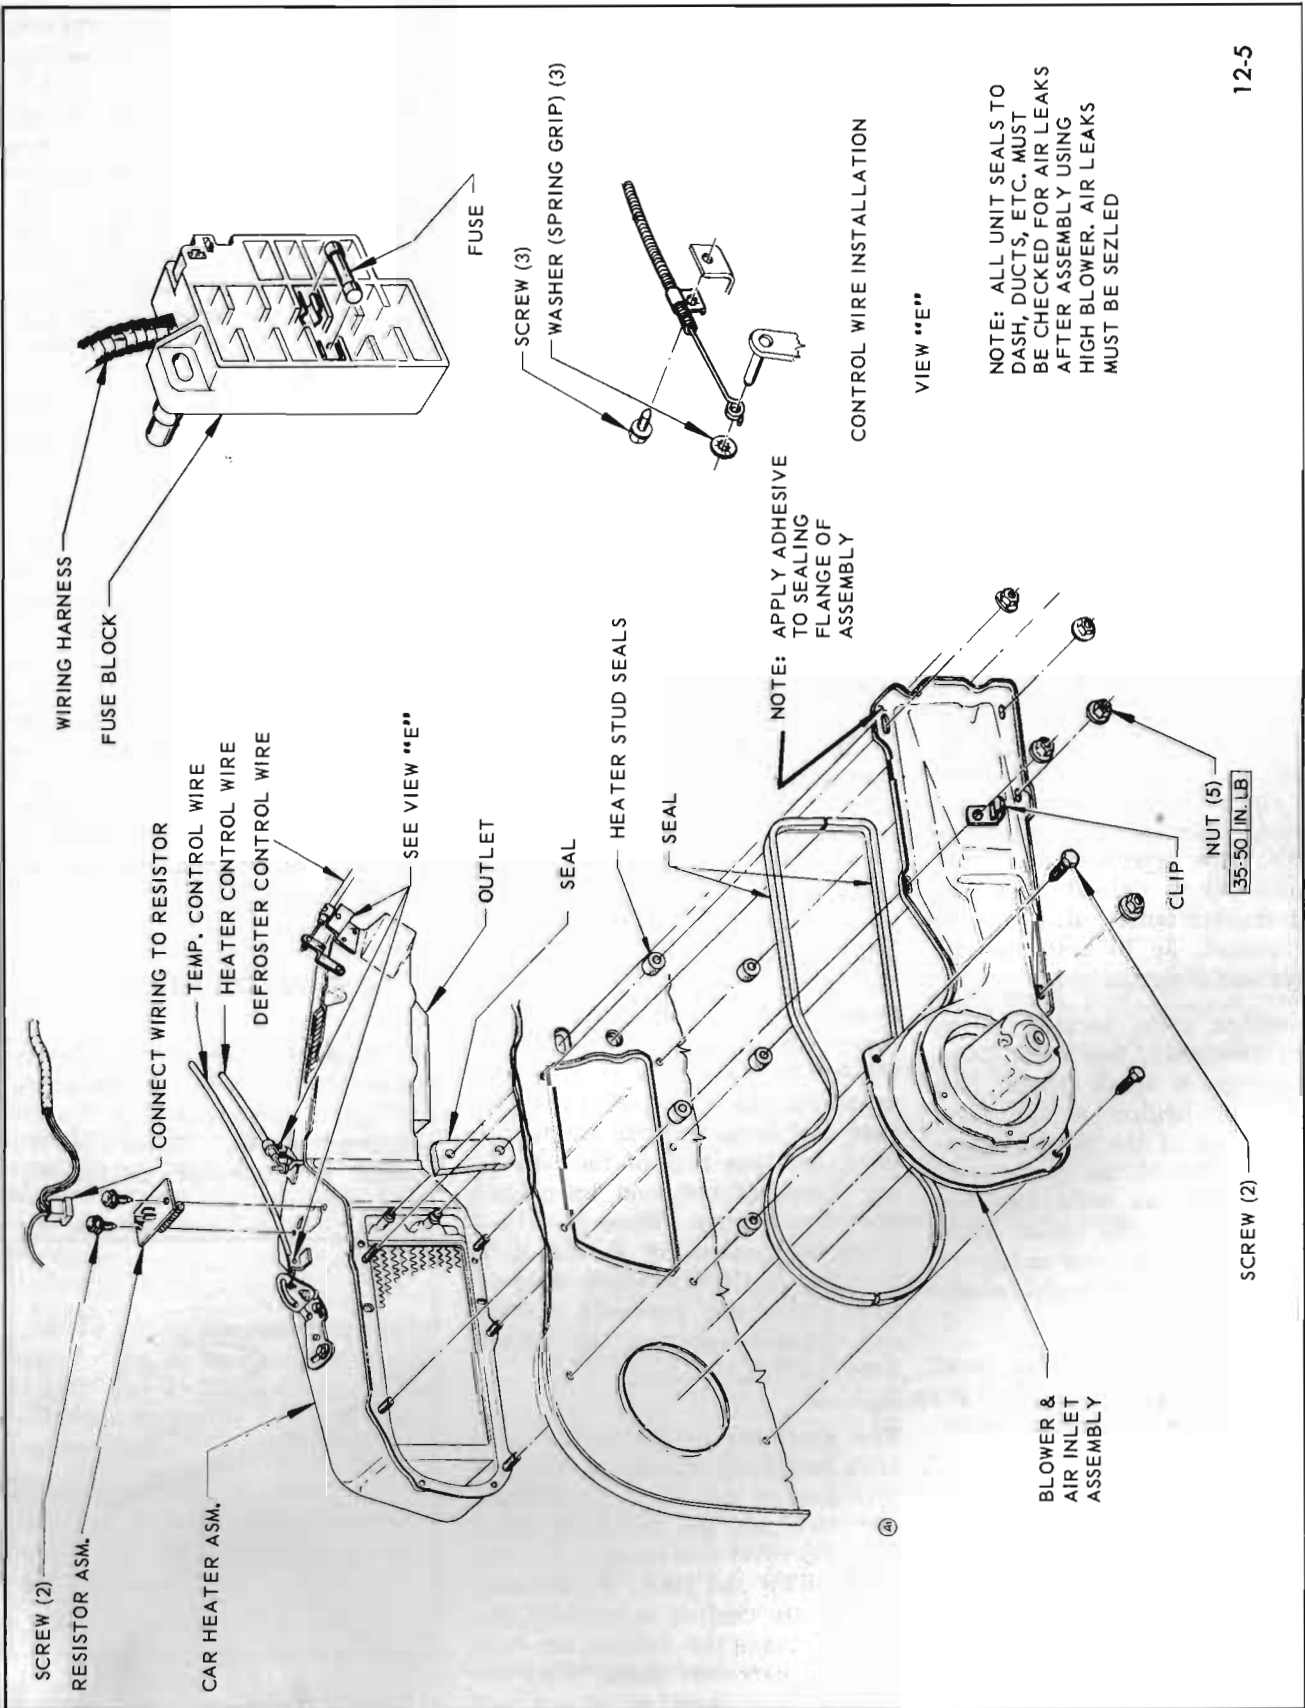

Figure 12-5—Heater Installation 43-44000 Series
The heater system is an air-mix type system in which outside air is heated and then mixed in varying amounts with cooler outside air to attain the desired air temperature. The system consists basically of three parts: (1) the blower and air inlet assembly, (2) the heater assembly, and (3) the heater control assembly (see Figure 12-5). The operation of the system is as follows:
2. Remove five nuts and two screws securing blower and air inlet assembly to cowl (see Figure 12-5), disconnect blower motor wire and take off assembly.